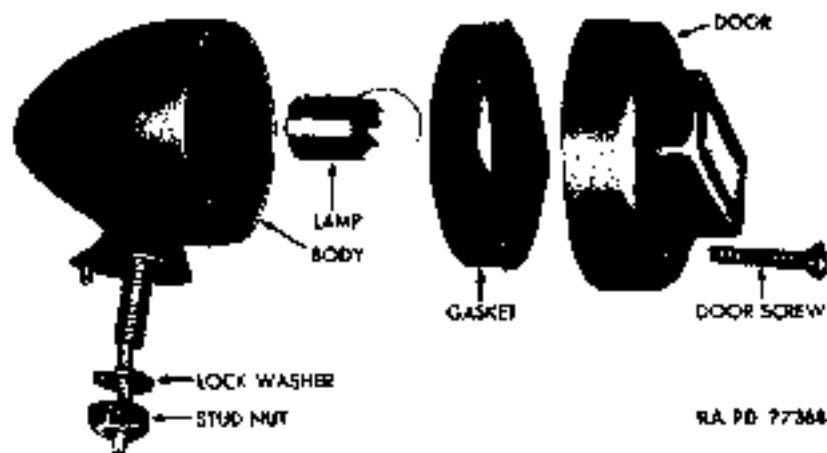

Figure 100 — Blackout Marker Light Disassembled
(1) **DESCRIPTION** (fig. 100). Two blackout marker lights are mounted, one on each side, on brush guard at front of vehicle. Lens in door of light is covered except for two small, translucent, triangular portions. Door is shaped so that triangles are visible only from a straight-ahead position; thus no beam is cast, and light serves only as a marker. Light contains a conventional single-contact socket.